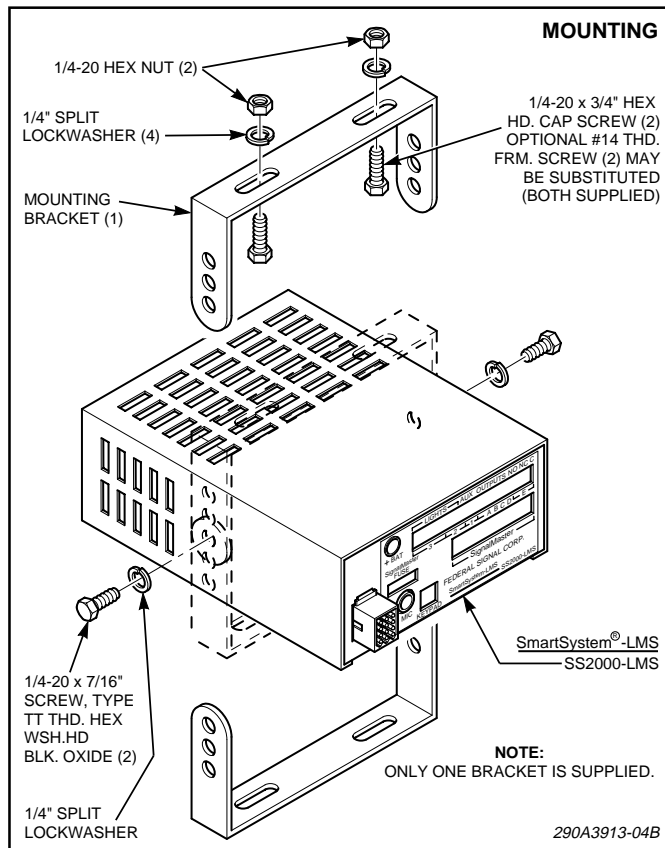

Figure 3-2. Mounting Bracket Installation.
C. Secure the mounting bracket to the mounting surface with (2 each) 1/4-20 x 3/4 hex head screws, 1/4 split lockwashers and 1/4-20 hex nuts as shown in figure 3-2.